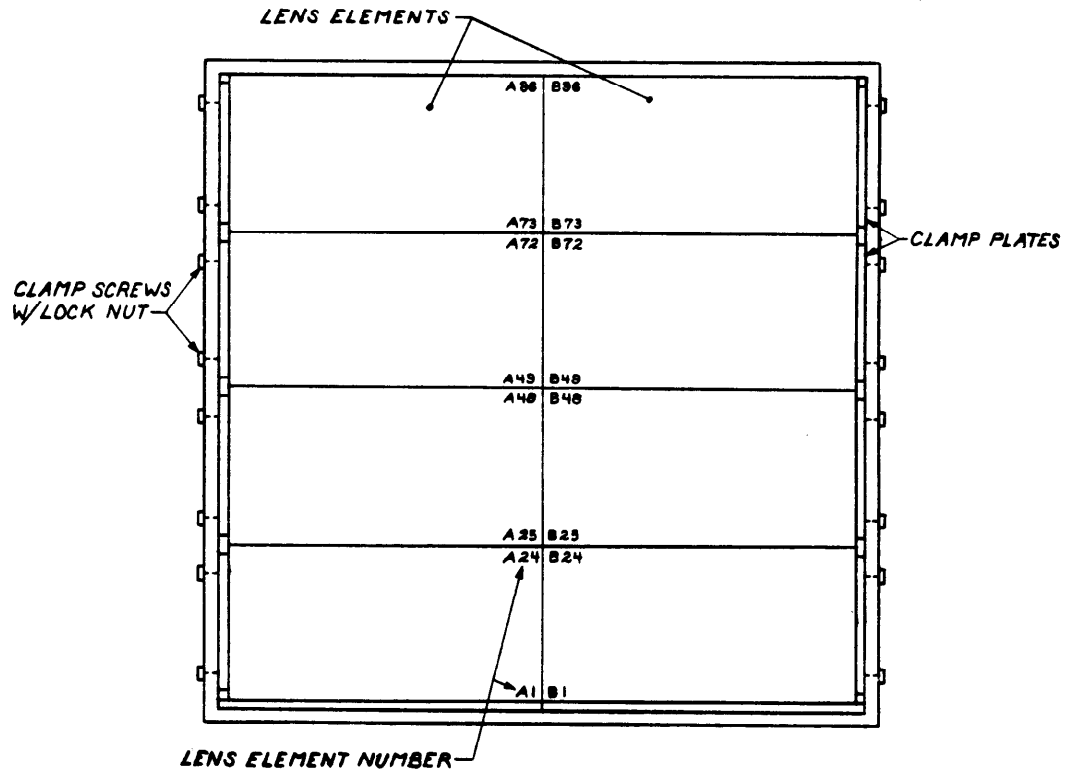

Fig. 3 - Element Retainers
3.03 Unset the lock nuts on all clamp screws (see Fig. 3).
4.04 The lens elements are to be installed in the antenna housing in the arrangement shown in Fig. 3, starting with elements A1-A24 and B1-B24.